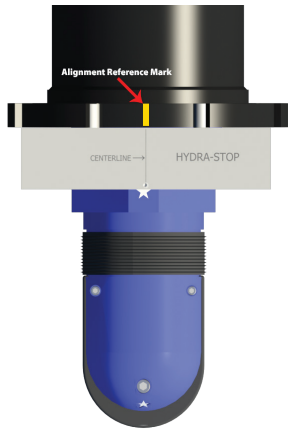

Figure 34
3.0.14) Ensure the flat of the alignment gauge arm remains aligned with the truncated side of the valve cartridge (see Figure 34).
3.0.17) Make a reference mark on the insertion housing aligned with the centerline of the Alignment Gauge (see Figure 34).